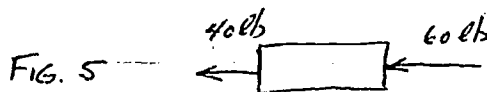

FIG. 5
7. In Figures 5 - a) What type of force system?